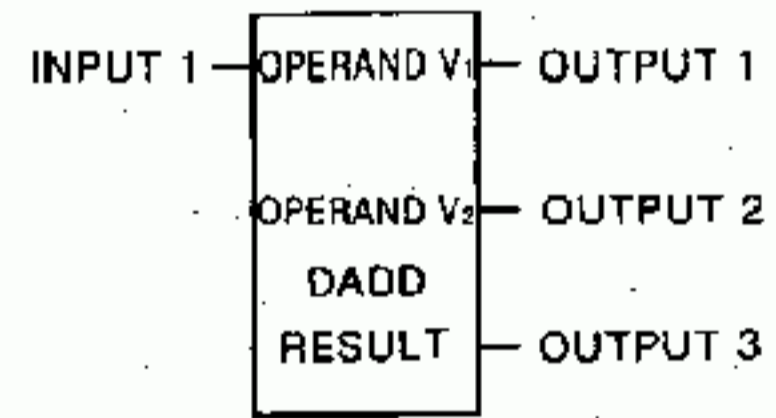

Fig. 4.20 DADD General Form
(1) Form
- Fig. 4.20 shows the form of double-precision addition (DADD).